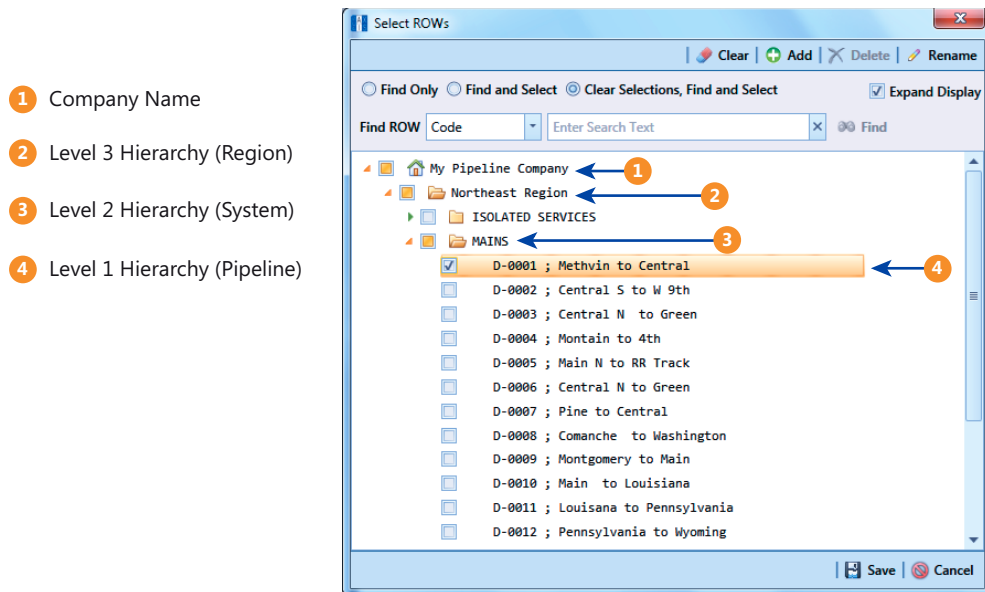

Figure 3-2. Example of Hierarchy Structure
PCS Axis supports a hierarchy structure with up to five (5) levels. The top hierarchy level includes either your company's name or other type of descriptor. The following figure shows a hierarchy structure with three (3) hierarchy levels (Figure 3-2). The names of hierarchy folders as well as ROW Code and ROW name support up to 100 characters.